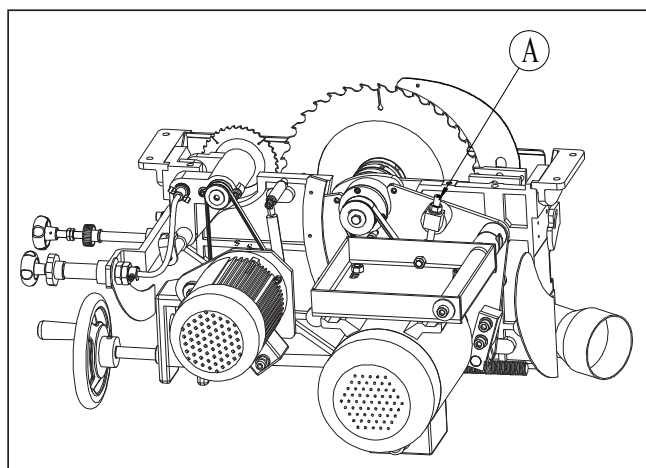

Fig. 7.2
- Open right side plate with 4mm allen wrench, then rotate the screw rod at A of figure 7.2 with 6mm allen wrench.